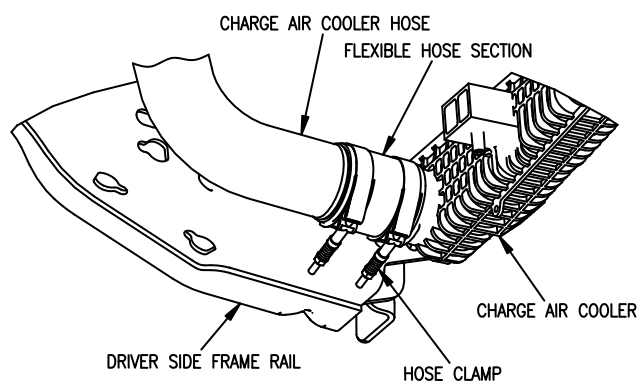

Figure 1. 2008-2010 Diesel engines only G10615
13. Remount Charge Air Cooler Hose to Charge Air Cooler (2008-2010 Diesel engines only) or remount the Transmission Oil Cooler using three Oil Cooler Spacers (100) and three M08 X 40MM Bolts (L) (2011 & Newer Diesel engines only). See Figures 1 & 2.
15. Install Push Beam (62) between Push Beam Support Plates (62A & 62B) using eight 1/2"-13 X 1-1/2" Hex Head Bolts (B) and eight 1/2"-13 Top Lock Nuts (H). Fasteners should only be finger tight. Push Beam (62) should be mounted at a height of 16-1/2" from the ground to the center of the hook hole.